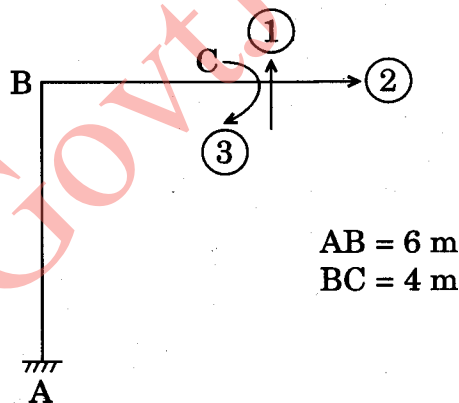

Figure 5
- Q3. (a) Develop the flexibility matrix for the beam shown in Figure 5, with respect to the generalized coordinates mentioned. EI is constant for all members. 20